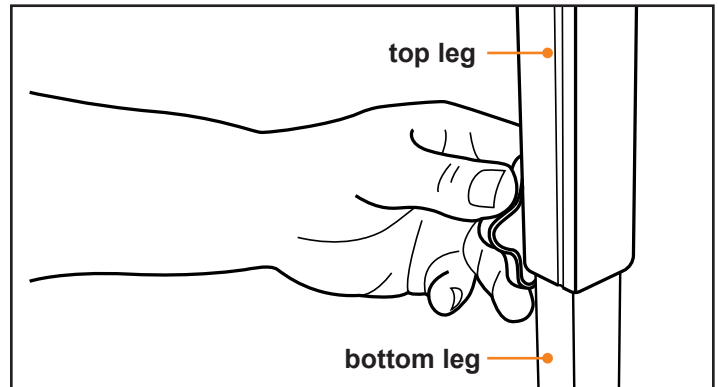

Fig.13
2. Loosen adjustment knob (**Fig.13**). Slide the bottom leg into the top leg. Re-tighten the adjustment knob.